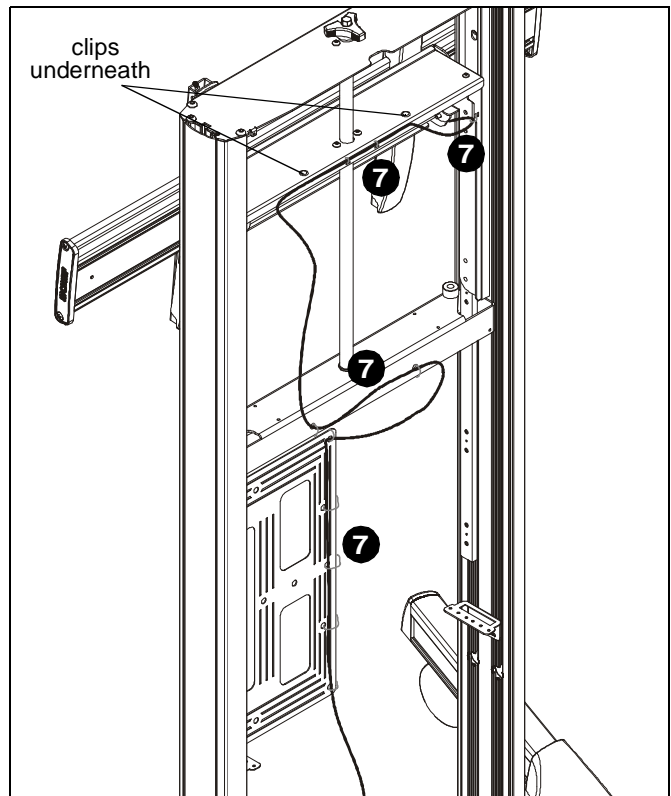

Figure 15
7. Route cables from display through inside of column assembly attaching at cable management attachment points and/or accessory bracket as desired. (See Figure 15)